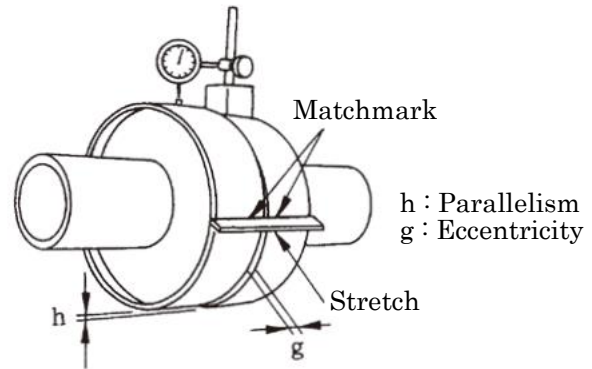

Fig. 2
- 3) Fix a dial gauge firmly to outer surface of one coupling. (Fig. 2)
- 5) Rotate the coupling and carry out same measurement as above item 4) at every 90 of quadrant positions.